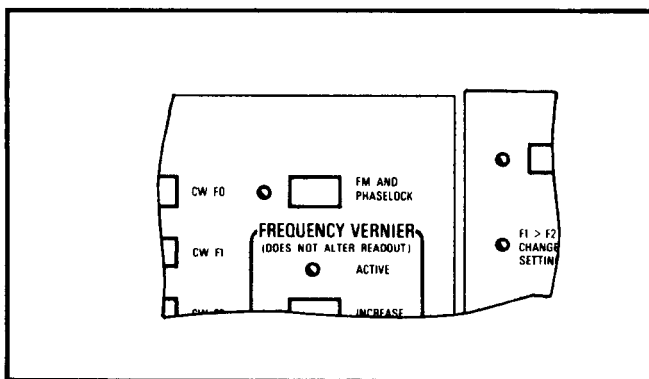

Figure 3-13. FM AND PHASELOCK Pushbutton
- d. **FM AND PHASELOCK Pushbutton** (Figure 3-13). This pushbutton allows the sweep generator output frequency to be either frequency-modulated or phase-locked to an external frequency standard. The external FM or phase-lock signal is input via the rear panel EXT FM  $\emptyset$  LOCK INPUT connector.